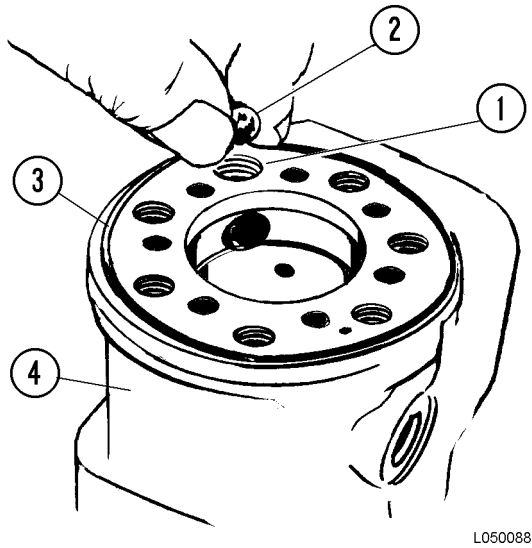

FIGURE 5-18. CHECK BALL INSTALLATION
10. Install the check ball in the hole shown in Figure 5-18. Install threaded bushing and lightly tighten.